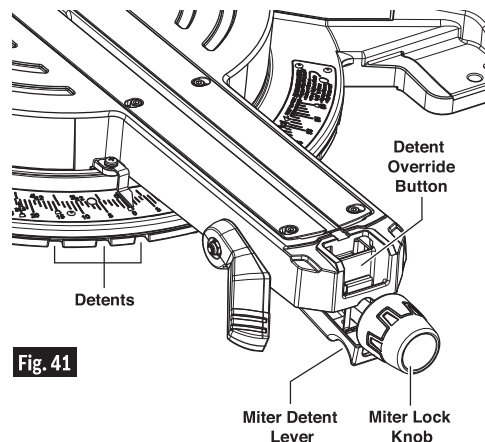

Fig. 41
2. Push the detent override clip forward and latch in place over receiving edge on turntable arm. Release miter detent lever (figure 41).